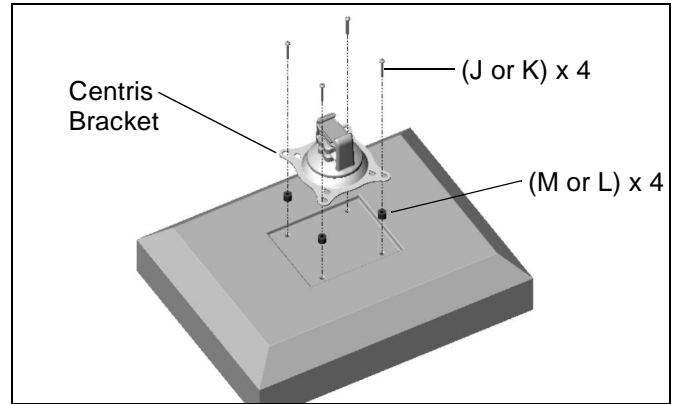

Figure 5
5. Place the Centris head (dual knob assembly) onto the spacers, aligning the mounting holes on the Centris bracket with the holes in the spacers. (See Figure 5)
6. Using Phillips screwdriver, install four selected screws through the mounting holes in Centris bracket, through the spacers, into the display (See Figure 5). Tighten all four screws. Do not overtighten!